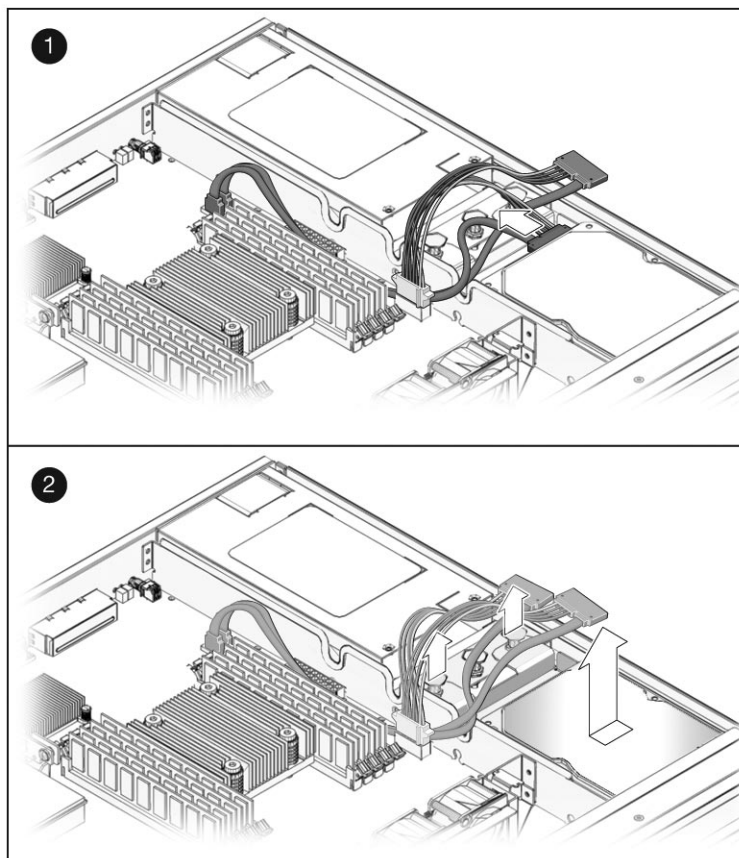

FIGURE 5-6 Removing the Single-Drive Assembly
1. Disconnect the drive cable from the data/power connector at the rear of the hard drive (FIGURE 5-6).
2. Pull the fasteners up on the rear of the single-drive assembly, and remove the single-drive assembly from the chassis (FIGURE 5-6).